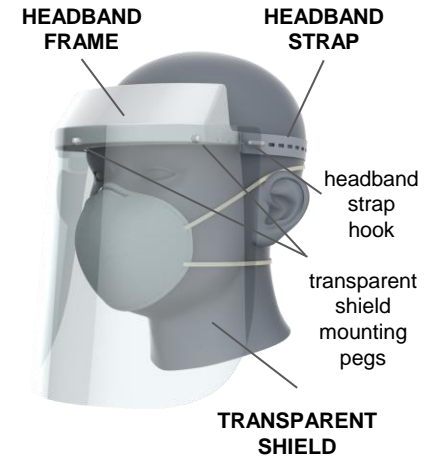

Figure 1
This face shield consists of three (3) components: the HEADBAND FRAME, the TRANSPARENT SHIELD, and the HEADBAND STRAP as seen in Figure 1.